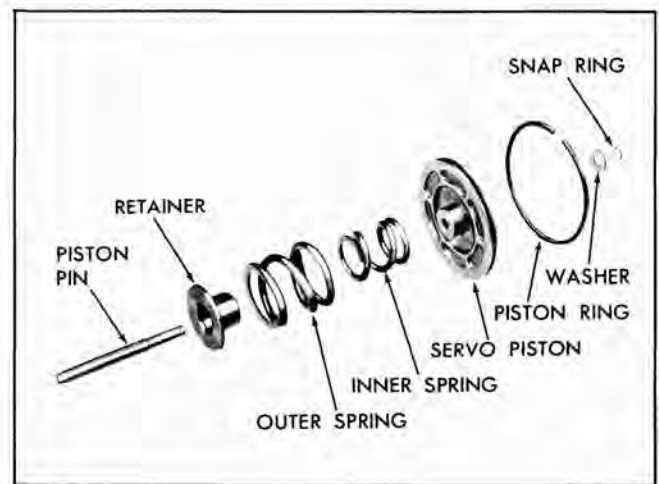

Fig. 106 Servo Piston—Exploded
2. Install the spring retainer, springs and servo piston over the servo piston pin (Fig. 106).